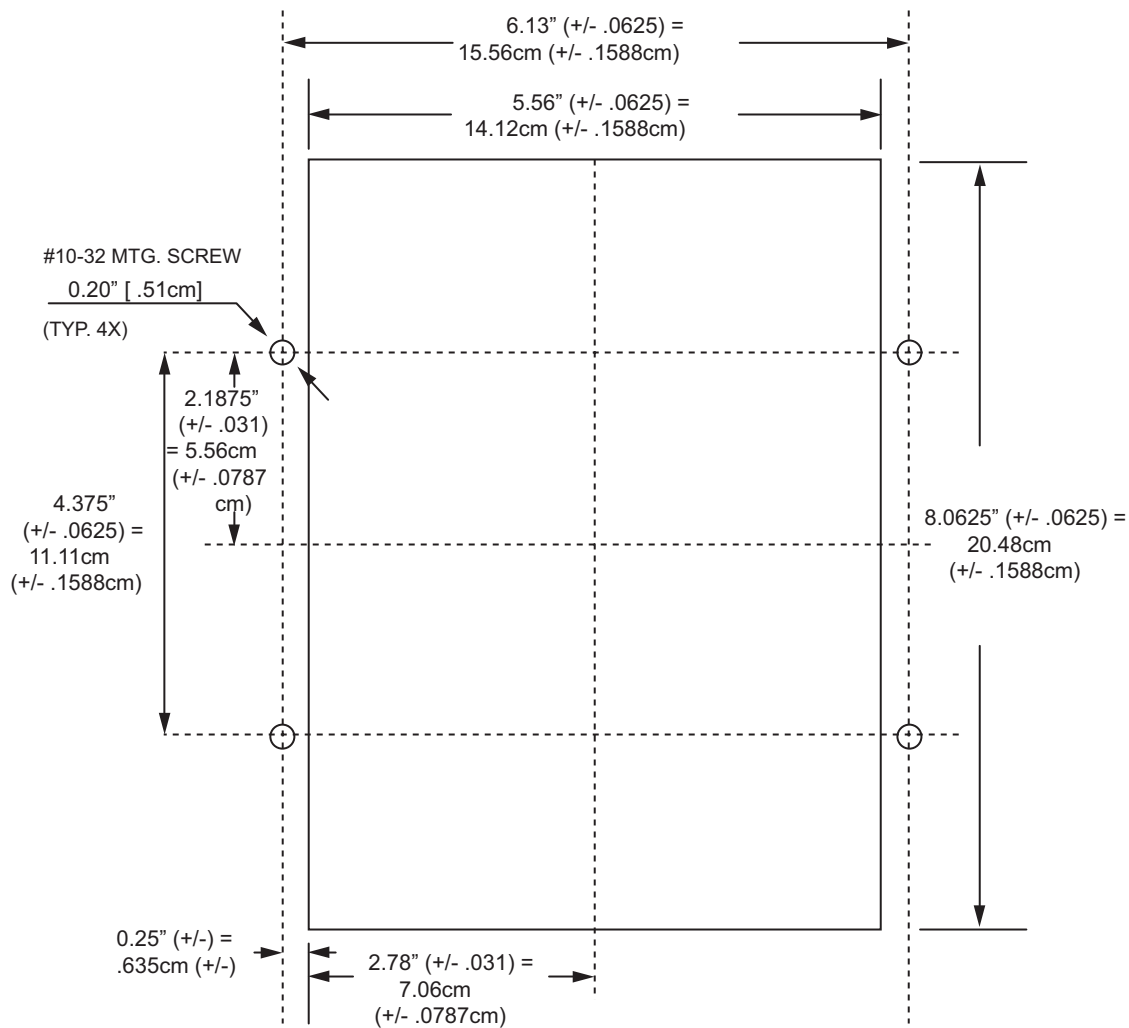

Figure 12.6: Switchboard Meter Cutout with Tolerance
**NOTE:** When the Switchboard cases are built, they are not exact. They are welded together and have slight variations. For that reason we add tolerance values to Figure 12.6.